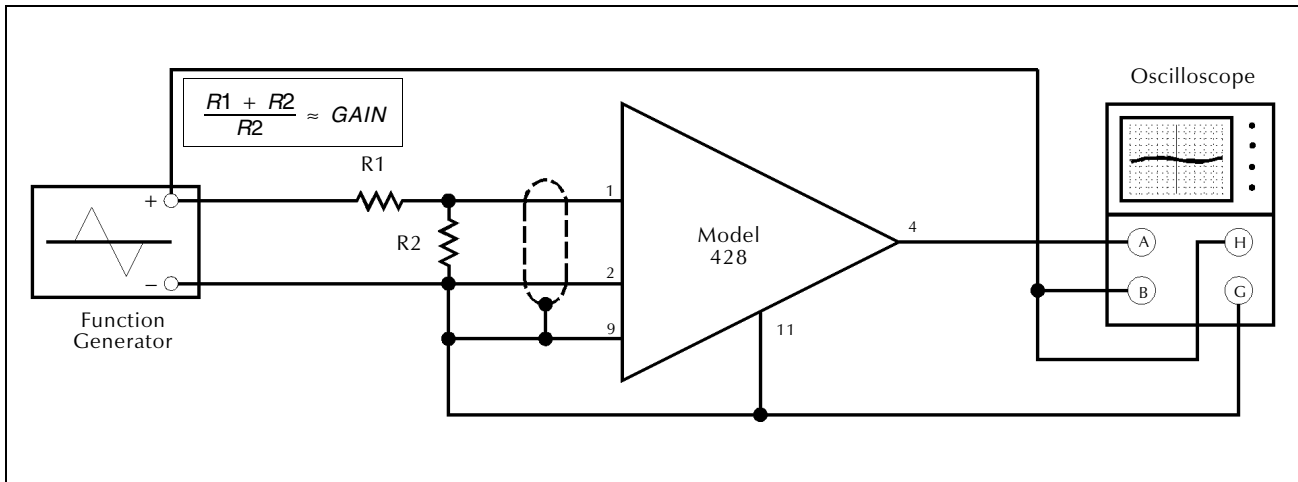

Figure 5-3
1. Connect the amplifier to be tested as shown in Figure 5-3. For R_1 and R_2 , use either metal-film or carbon-film or carbon-composition resistors. R_2 should not be less than 100 Ω .